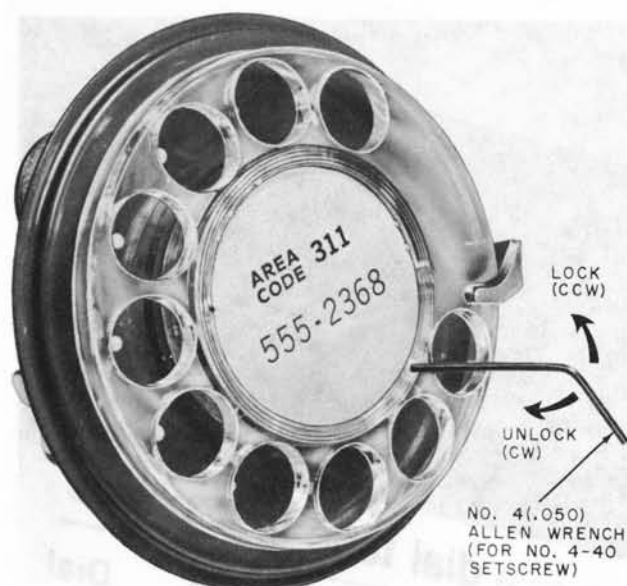

Fig. 46—Installing Fingerwheel on 8WA Dial
(3) Use a No. 4 (.050) Allen wrench and turn the setscrew clockwise (minimum of three turns) with the dial in the rundown position until it clears the fingerwheel and reaches the stopping point as shown in Fig. 46.
(4) Remove the Allen wrench.
(5) Turn the fingerwheel in a clockwise direction until the "0" hole is in the 9 position and lift off the fingerwheel.
(6) Line up the slit in the number card with the "V" guide on the fingerwheel. Do not remove the perforated notch on the number card.
(7) Push the number card into place. (This will force the slit on the number card over the guide holding the number card in place.)
(8) Position the fingerwheel on the dial with the "0" hole over the 9 position.
(9) Rotate the fingerwheel counterclockwise until it is in the rundown position.
(10) **Warning 3:** Do not overtighten the setscrew. Using an Allen wrench, turn the setscrew counterclockwise until the stop is reached as shown in Fig. 46.